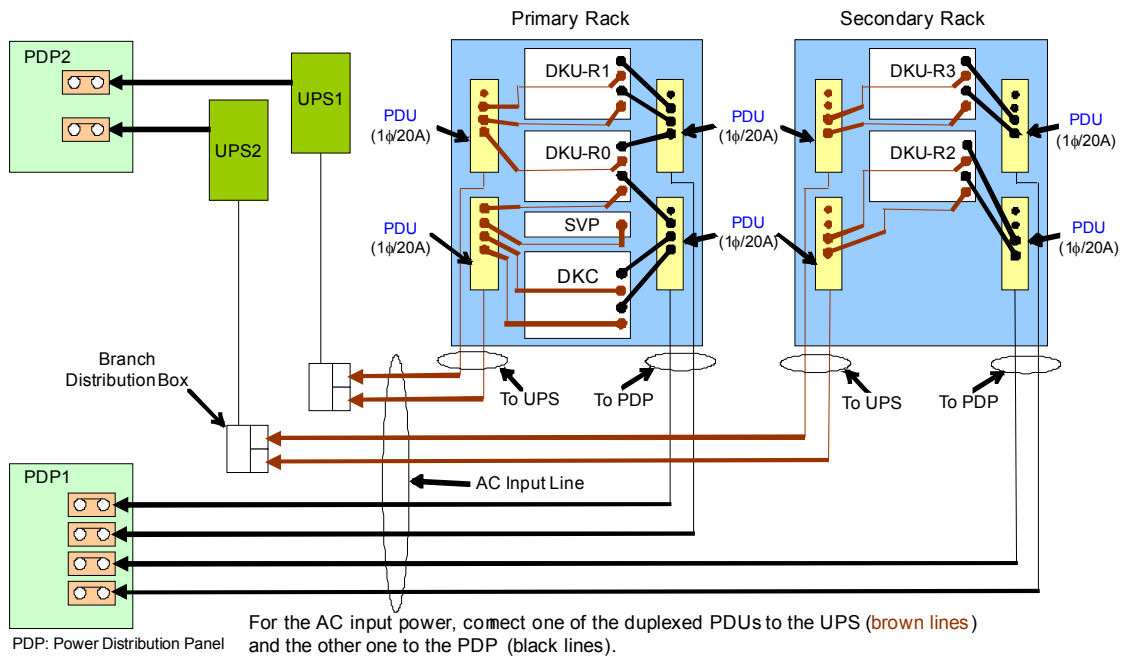

Figure 5.11 Power Connection via UPS
- **Power connection via UPS.** Figure 5.11 shows the power connections when half of the AC input lines are connected to an uninterruptable power supply (UPS), and the other half of the AC input lines are connected directly to the power facility.